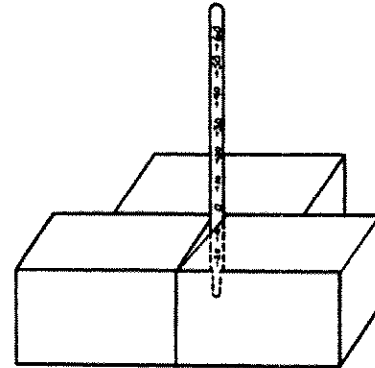

Figure 3
- In freezer compartment, place thermometer snugly between packages of frozen food for 5 to 8 hours. See Figure 3. If temperature is not between 0°F and +2°F (-18°C and -17°C), adjust control one number at a time and check again after 5 to 8 hours.